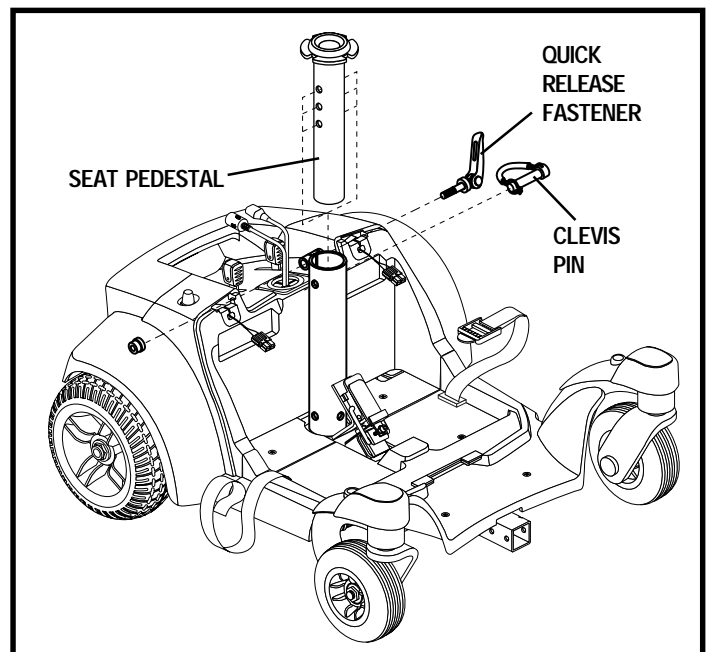
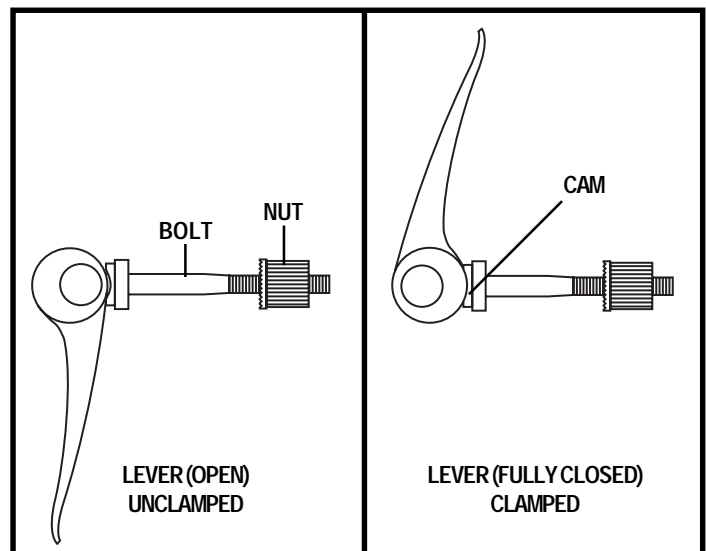

Figure 10. Seat Height Adjustment
Figure 11. Quick Release Fastener Operation
4. Loosen the quick release fastener. See figure 10.
8. Tighten the quick release fastener. See figure 11.
The quick release fastener removes excess play in the seat pedestal. See figure 10. The quick release fastener consists of a bolt, a lever, and a nut. See figure 11. The lever has a cam on the end that allows it to clamp into place. The quick release fastener has two states: clamped and unclamped. When the lever is open, the quick release fastener is unclamped. When the lever is closed, the quick release fastener is clamped.